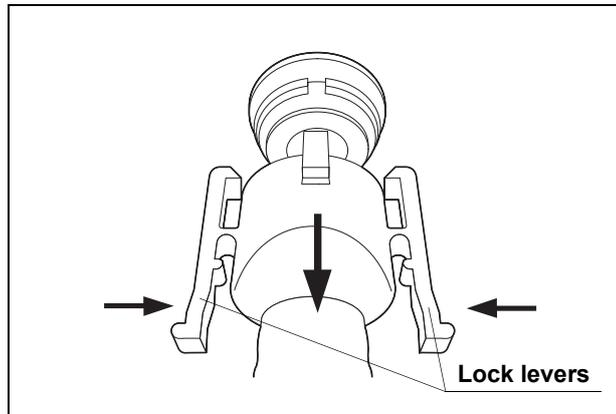

Figure 7.63
15. Hold the lock levers and slowly disconnect the tube (see Figure 7.63).